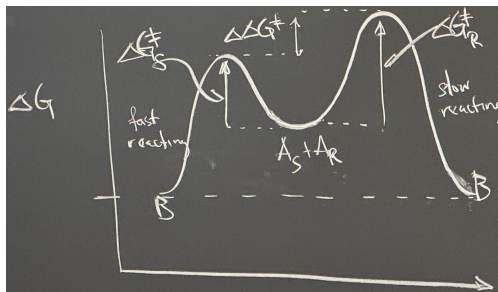

Figure 14.2: Catalytic kinetic resolution energy diagram.
- What we've indicated in Figure 14.2 is that the (*S*)-enantiomer is converted faster than the (*R*)-enantiomer.
- As we've depicted it in Figure 14.2, our starting materials are equal in energy and not interconverting.